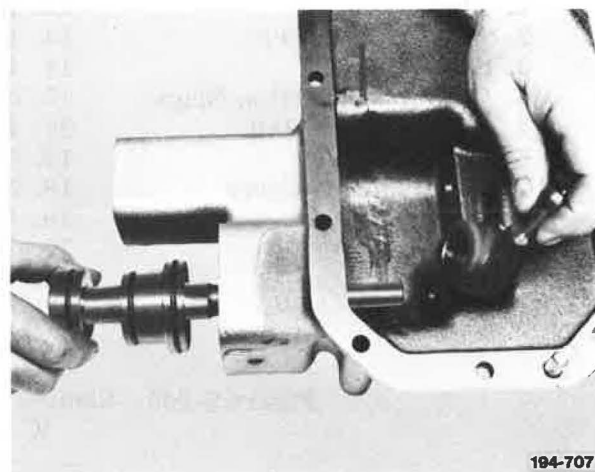

Figure 5-871. Installing Shift Rail and Shifter
6. Insert Hi/Direct shift rail into shift cover, and at the same time, install Hi/Direct shifter onto shift rail. See **Figure 5-871**.